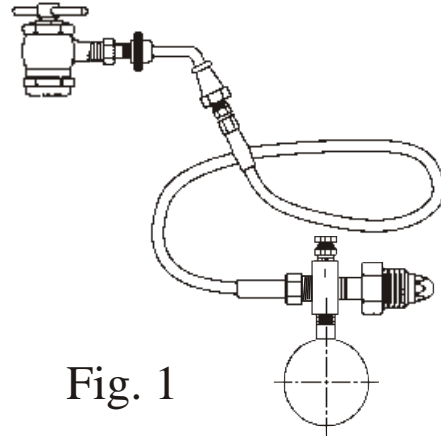

Fig. 1
For accumulators rated for 3000 psi or less, use assembly RC-0185 as shown in Figure 1.
6. To remove gaging assembly turn "T" handle all the way out on gas chuck (Figure 1), then open bleed valve.